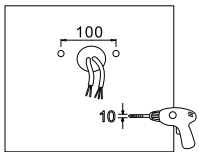

Fig. 3
- 2.) If required, drill mounting holes into the mounting surface using the yoke mount as a template (**Fig. 3**).